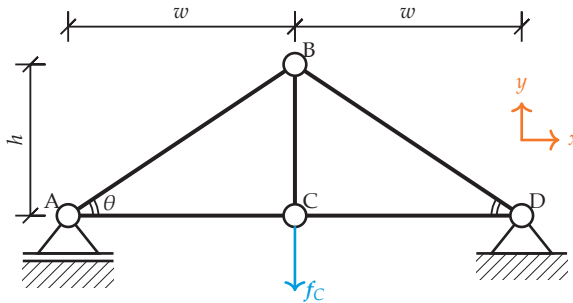

Figure 4.6. A truss with pinned joints, supported by a hinge and a floating support, with an applied load  $f_C$ .
**Problem 4.5**  You are designing the truss structure shown in figure 4.6, which is to support the hanging of an external load  $f_C = -f_C \hat{j}$ , where  $f_C > 0$ . Your organization plans to offer customers the following options: